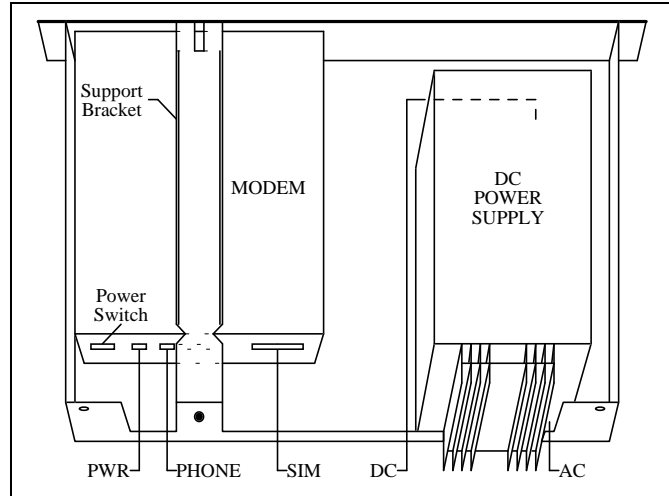
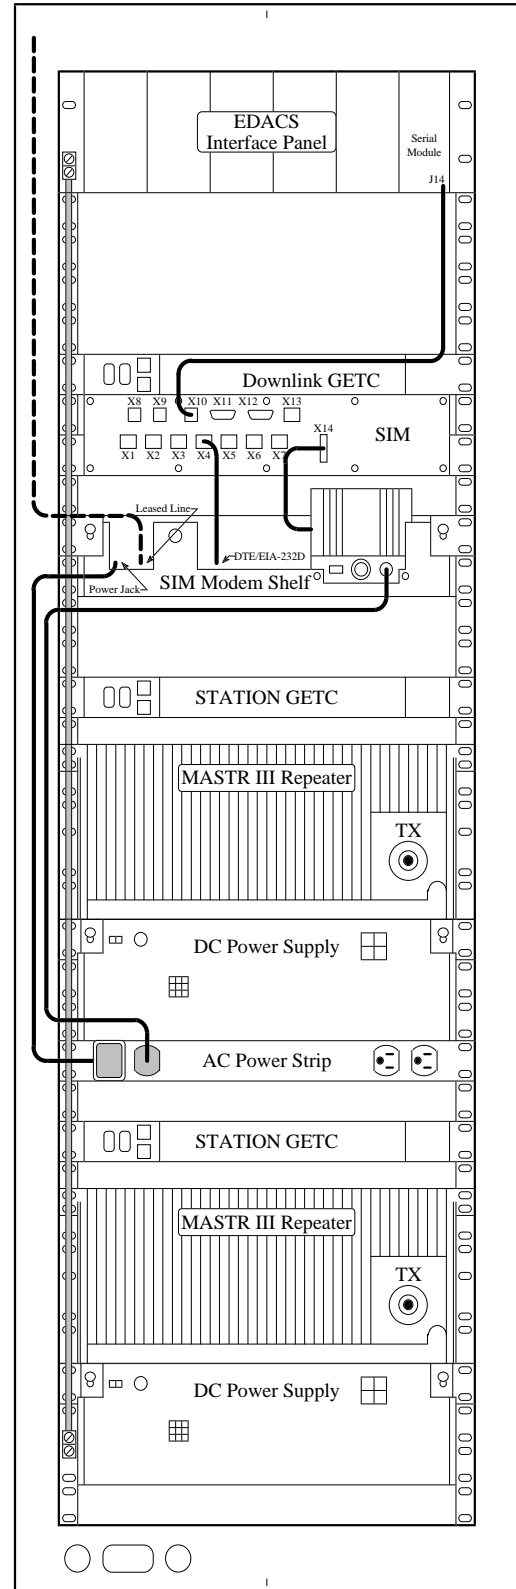

Figure 2 - SIM Modem Shelf Connections
Figure 3 - Standard Cable Connections
- If the SIM Modem Shelf contains a DC power supply, connect the SIM Power Cable (part # RPM 113 2512) to the front of the power supply and route the cable to the back as shown in Figure 2.
Connect the following SIM cables. Figure 2 shows the location of cable connections to the SIM Modem Shelf. Figure 3 shows the location of SIM cable connections to the standard AC-powered MASTR III Basic EDACS repeater cabinet.